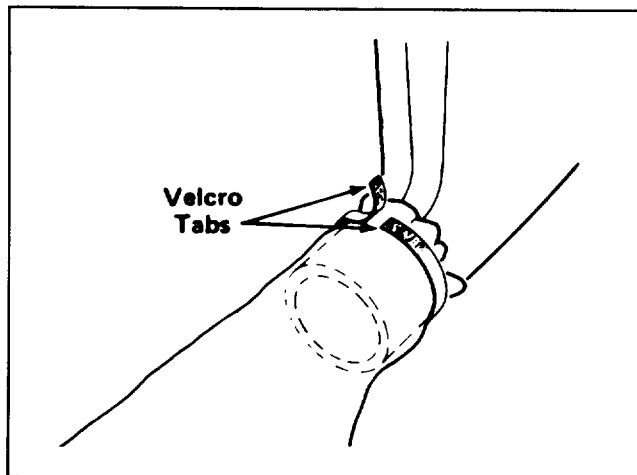

Figure 6
5. Fit opening of bag over exhaust opening on blower. Pull strap tightly, overlap velcro tabs, and secure (Fig. 6).